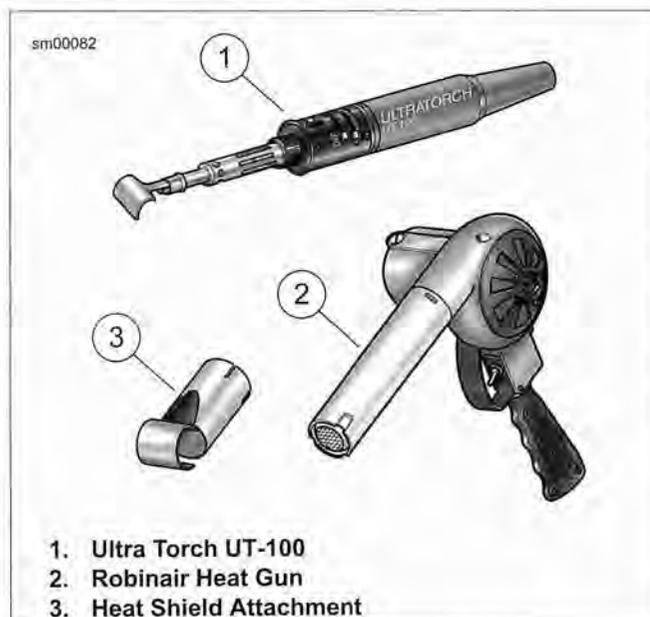

Figure 6-136. Radiant Heating Devices
- See Figure 6-136. Using the ULTRA TORCH UT-100 (Part No. HD-39969) or ROBINAIR HEAT GUN (Part No. HD-25070) with HEAT SHIELD ATTACHMENT (Part No. HD-41183) or other suitable radiant heating device, uniformly heat the heat-shrink tubing to insulate and seal the soldered connections. Apply heat just until the meltable sealant exudes out both ends of tubing and it assumes a smooth cylindrical appearance.